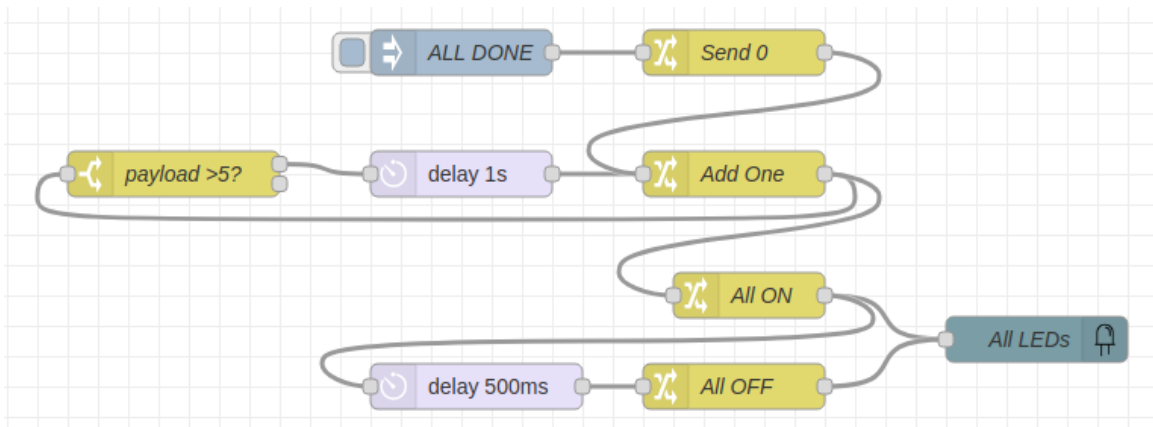

Figure 5-103: Flasher Flow
**Deployment Flow** – When you deploy your kitchen timer flows the State is set to “STOP” and the Time is set to 0. What about the LED? Opps, better set those to zero to match the state, just in case they are set to some other value from some previous work you did (item 9 of specification). Easy to do... just add a Link Out node to the “Set Time to 0” node of Figure 5-86 and send it to a Link IN wired to the “All OFF” node of the Flasher flow in Figure 5-103. Make life easier and name the Link Out and Link In nodes the same name, like “Clear LEDs”. Don't forget to open each Link node and connect them to each other.